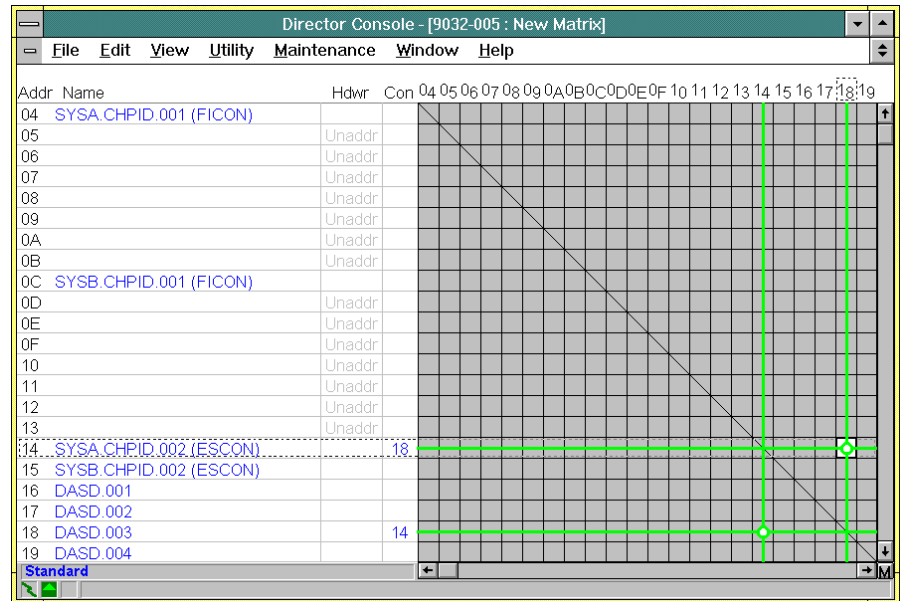

Figure 150. Matrix Window (FICON, Dedicate Attribute)
7. Repeat step 6 for port addresses **0C**, **14**, **15**, **16**, **17**, **18**, and **19**. Example port address names appear in Figure 150. Unaddressable ports associated with FCV Port cards are typically not named.
The dedicated attribute (green bar) appears, and port addresses **14** and **18** appear in the *Con* column in blue characters. Any other address connections for these port addresses are not allowed. Figure 150 shows the *New Matrix* window with the dedicate attribute set.